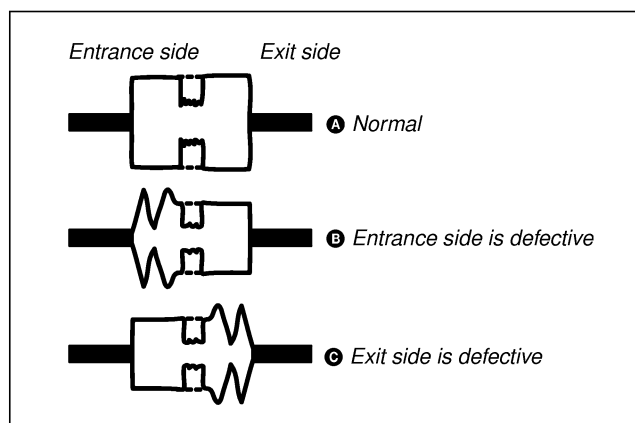

Fig. 4-2
- 7) Confirm that RF waveform on scope is flat in both entrance side and exit side. (Refer to Fig. 4-2 **A**).
If RF waveform is not flat in entrance side and exit side, perform the adjustment of section 4-2. and later. (Refer to Fig. 4-2 **B** and **C**).